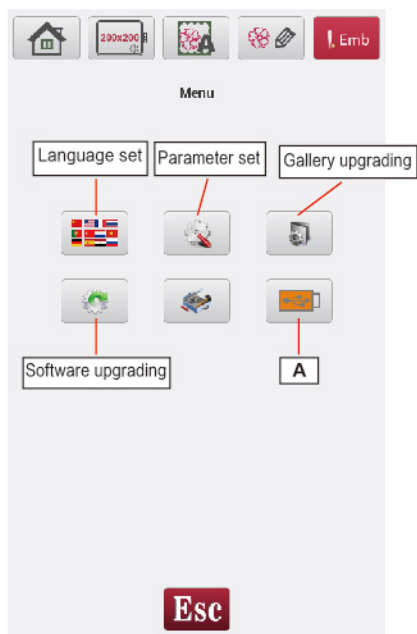
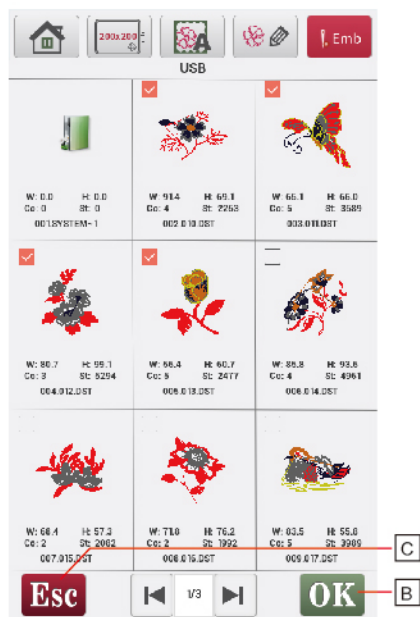

Figure 10
Figure 11
- (2) After turning on the machine, the machine will enter Figure 10 interface. Click A to enter Figure 11 interface. Then select one or multi patterns, click B for importing successfully, click C